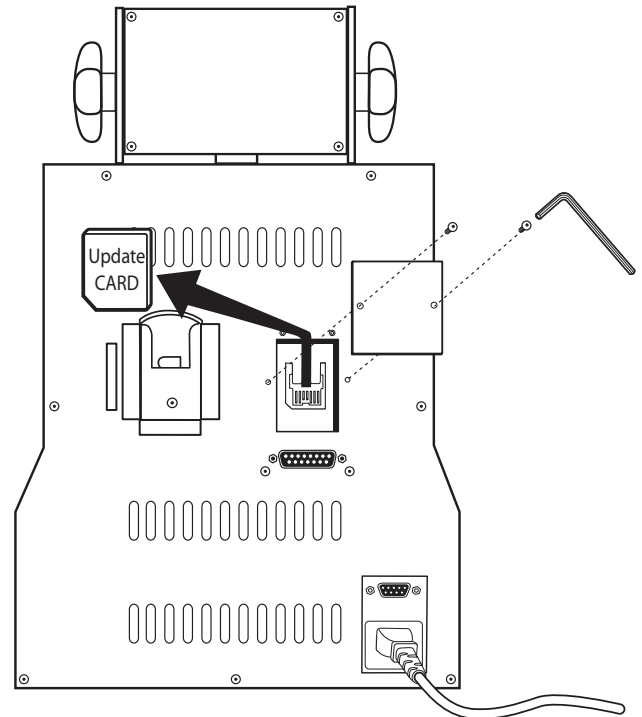

Fig. 1
6. **DISCONNECT DECODER PLATE POWER TERMINAL:** Using a Phillips Screwdriver, unscrew the Connector screws from the Decoder Plate Terminal to release Connector wires (Fig. 1).
9. **REMOVE OLD DRIVE BELT:** With the left hand, turn Cutter Wheel Shaft rearward (toward you) and with the right hand, grasp rear belt with forefingers and twist belt as it moves upward. Guide the belt off of the pulley (Fig. 1).
11. **COMPLETION-STEP ONE:** First, re-connect the Decoder Plate Terminal Block by attaching power wires to terminals with phillips screwdriver (Fig.1). "Positive" wire and terminal position is identified by red color. The top terminal is "Common". Next re-connect the Computer Circuit Board Ribbon to the receptacle on the Circuit Board. This connector fits only one way. NOTE: Tongue on lower side aligns with lower slot in receptacle.
12. **COMPLETION-STEP TWO:** Re-attach back panel using Allen Wrench and seven (7) screws. (Refer to Step 5 for screw locations).
1. Using the 3/32" Allen Wrench, remove the plate covering the Update Card Receptacle. Next, remove the Update Card by sliding card up and out of receptacle (Fig. 1).
6. Remove the cutter from Tiger SHARK™ and install the Calibration Disk. Place the Calibration Key in jaw A and align with the shoulder gauge. After aligning Calibration Key, lower the shoulder gauge to the rest position (Fig. 1).